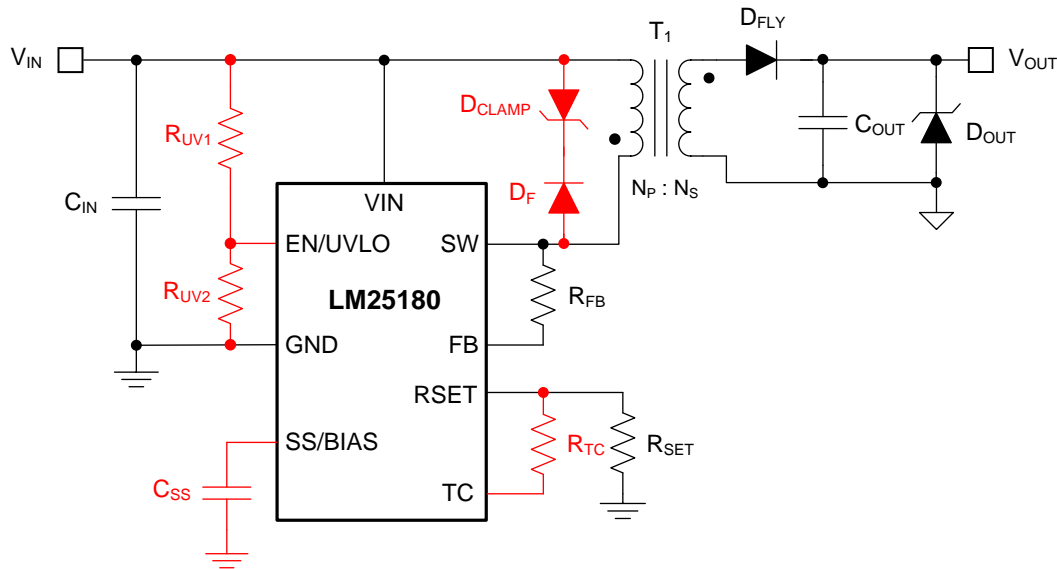

Figure 19. LM25180-Q1 Flyback Converter Schematic (Optional Components in Red)
Figure 19 shows a typical schematic of the LM25180-Q1 PSR flyback circuit. Components denoted in red are optional depending on the application requirements.
To minimize output voltage regulation error, the LM25180-Q1 senses the reflected secondary voltage when the secondary current reaches zero. The feedback (FB) resistor, which is connected between SW and FB as shown in Figure 19, is determined using Equation 8, where  $R_{SET}$  is nominally 12.1 kΩ.